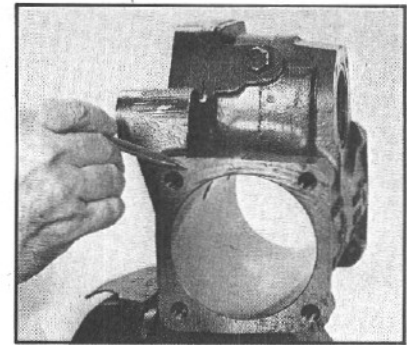

Figure 84
5. Inspect the housing (20) faces for nicks that would prevent proper sealing. Replace the gear housing if these nicks are present and cannot be easily removed with a fine-toothed flat file without changing the dimensional characteristics (FIG. 84).